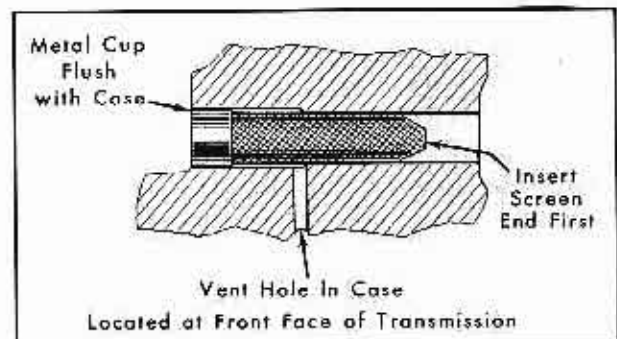

Fig. 14-39 Installing Air Breather
3. Make certain pencil type breather is not driven too far into case. Outer edge of breather plug must be flush with surface of case. Fig. 14-39. Otherwise, it is possible to restrict the case vent passage and cause foaming of the oil.